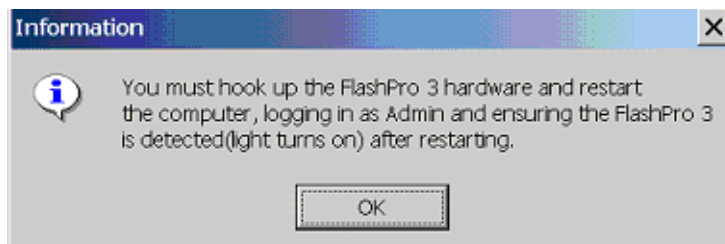

Figure 1-5. Information Box
8. If you clicked Yes, follow the steps in the Information box to ensure that FlashPro3 or USB FlashPro is installed properly, and click OK as shown in Figure 1-5.
10. Click *Finish* to restart your computer as shown in Figure 1-5. You will restart your computer before starting FlashPro.